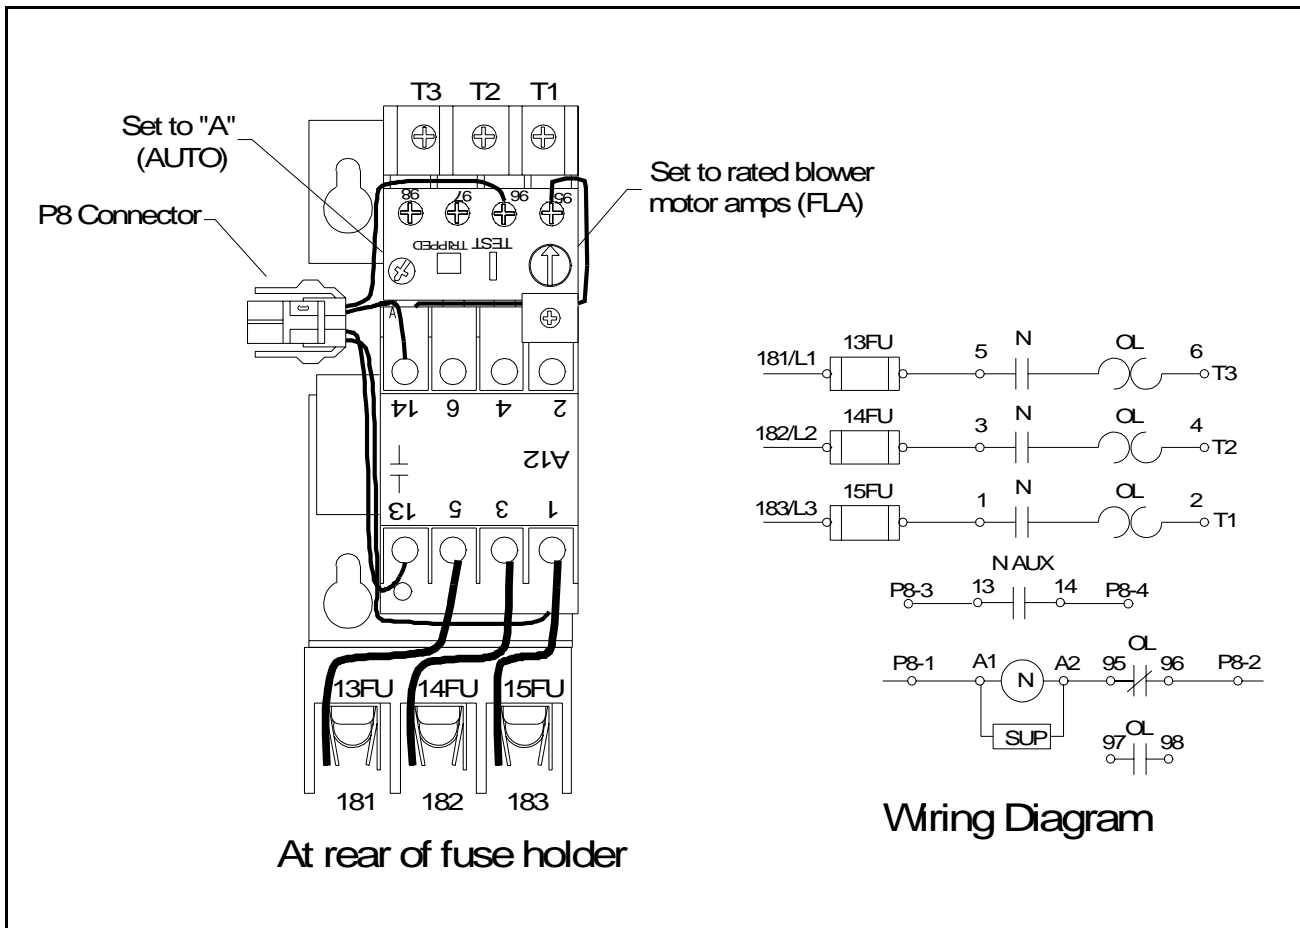
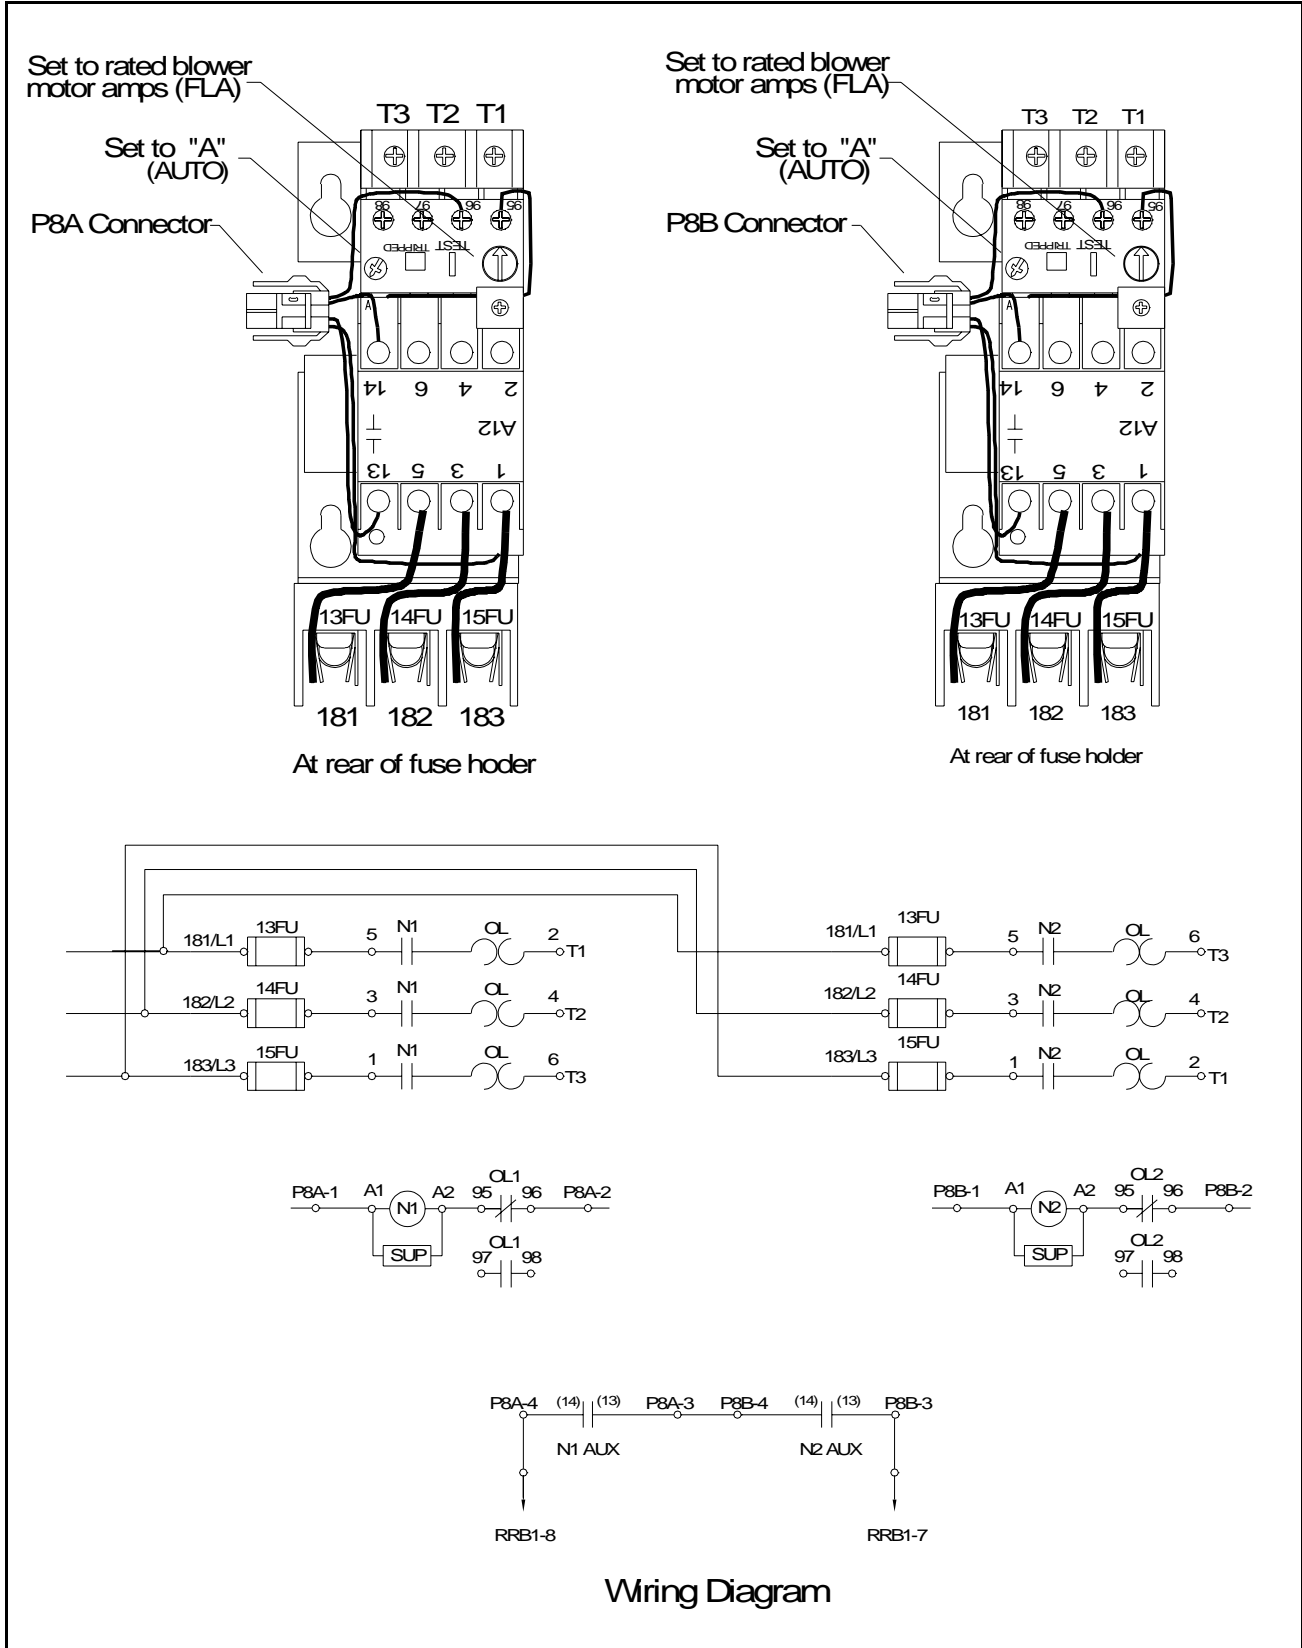

Figure 1 – Typical Blower Motor Starter (1.5 HP to 300 HP Drives)
Figure 5 – Typical Blower Motor Starter (400 HP to 600 HP @ 460 VAC Drives)
- Step 5. Turn the overload relay potentiometer to the blower motor's rated full load current. Set the overload relay to A (Auto). See figure 1 or figure 5.